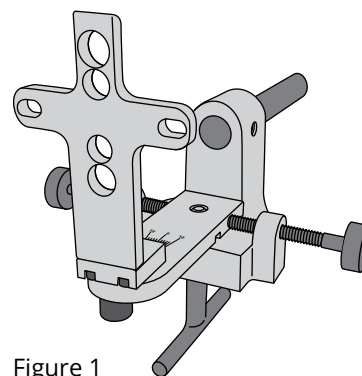

Figure 1
2. Attach the Transfer Fixture to your Hosmer VFJ (52056) by removing the fixture for the SACH foot adapter and replace it with the Transfer Fixture. This will allow adjustments on the VFJ and angle adjustment within the Transfer Fixture (Figure 1).